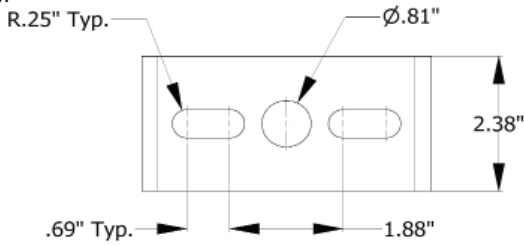

FIG. 18
- 1 The drilling template for the FALC/2 Trunnion Mount is shown below (Fig. 18).